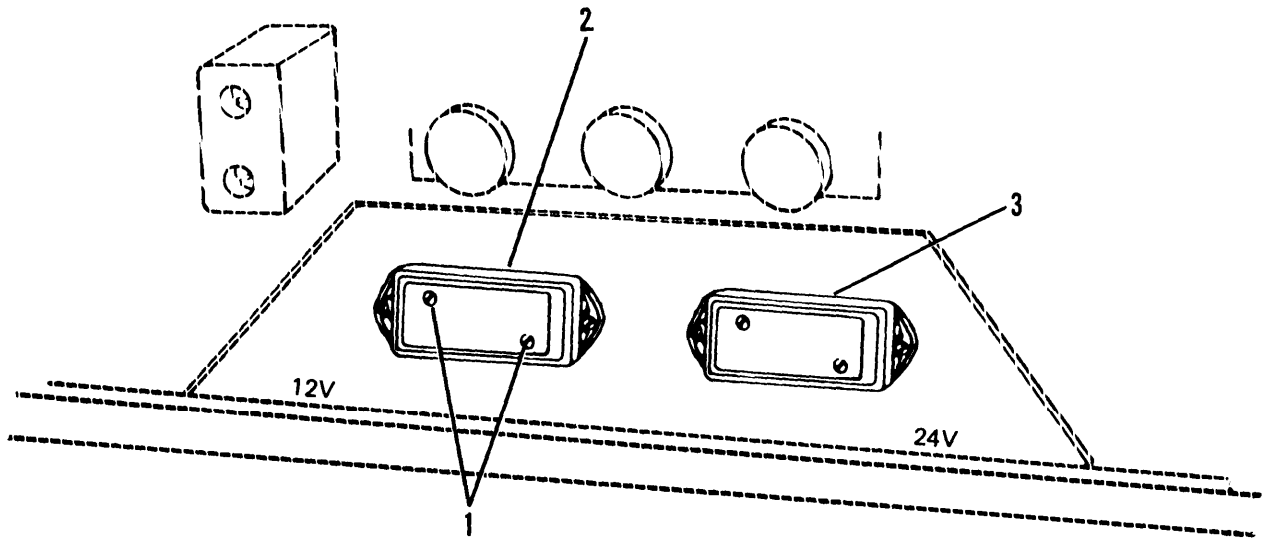

Figure 4-7. Junction Box Cover (M871 only)
- (1) Remove two screws (1, fig. 4-7) and junction box cover (2).
- (2) Tag and disconnect the interconnecting wiring from terminal strip.
- (3) Repeat steps 1 and 2 for other junction box cover (2).
- (1) Connect interconnecting wiring to the terminal board.
- (2) Install junction box cover (2, fig. 4-7) and two screws (1).
- (3) Repeat steps 1 and 2 for other junction box cover (3).
- (4) Connect electrical power and test for proper operation.